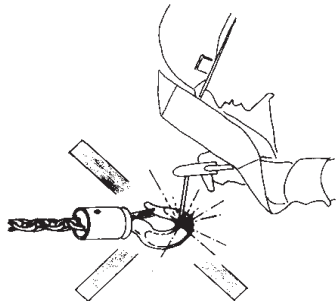

Fig. 4
- Welding on hook and load chain is strictly forbidden. The load chain must never be used as a ground connection during welding (fig. 4).